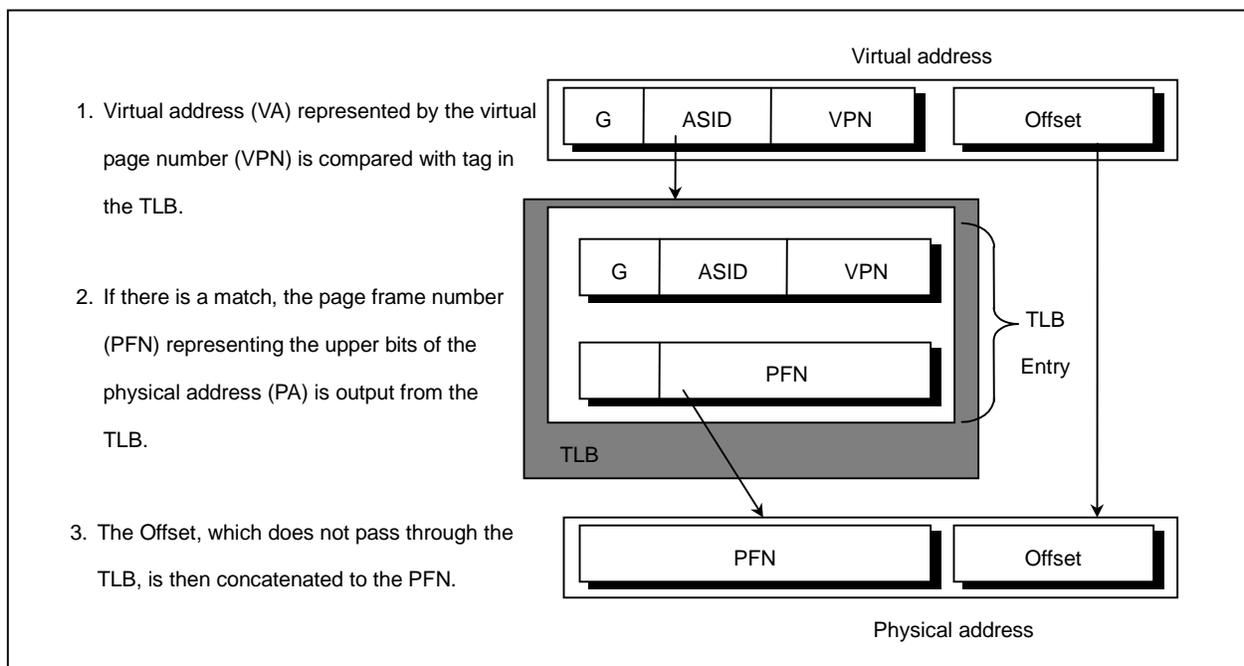

Figure 8-1 Overview of a Virtual-to-Physical Address Translation
Figure 8-1 shows the translation of a virtual address into a physical address.
As shown in Figure 8-1 and Figure 8-1, the virtual address is extended with an 8-bit address space identifier (ASID), which reduces the frequency of TLB flushing when switching contexts. This 8-bit ASID is in the CPO *EntryHi* register, described later in this chapter. The *Global* bit (G) is in the *EntryLo0* and *EntryLo1* registers, described later in this chapter.